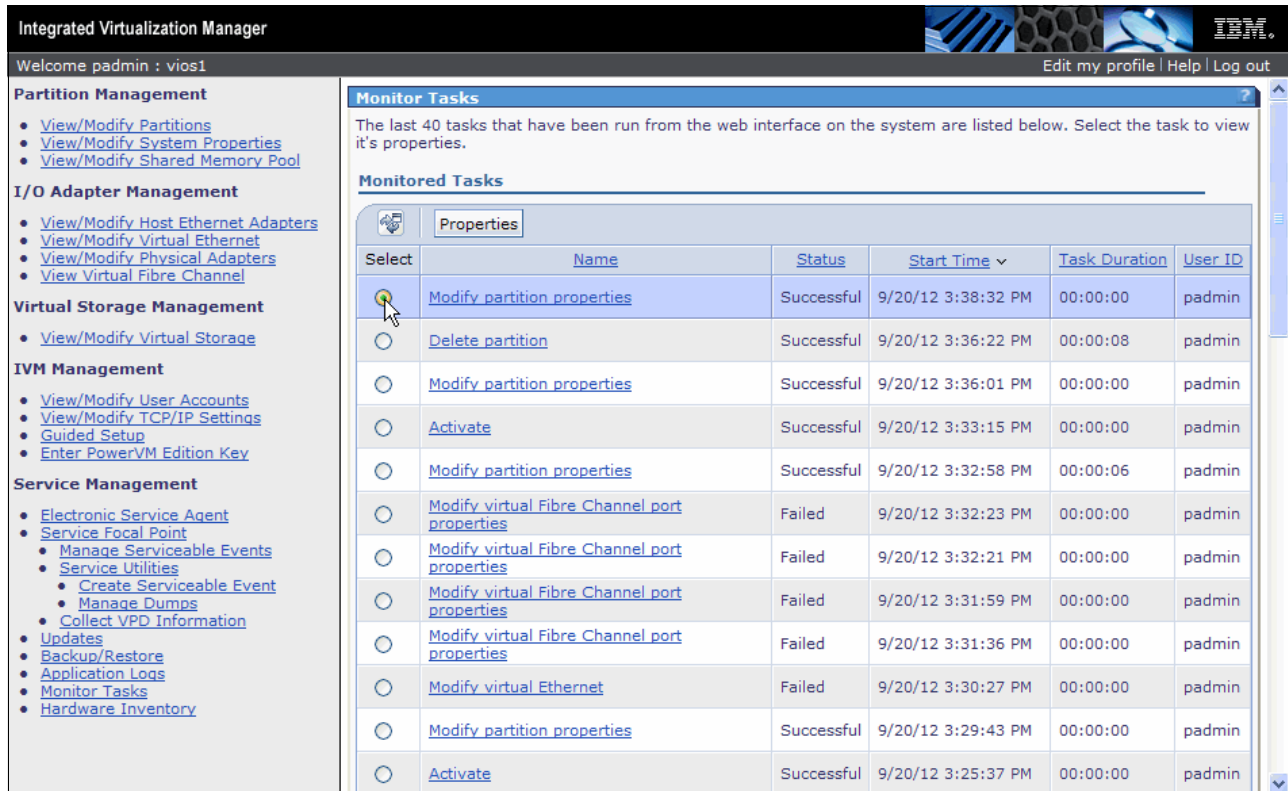

Figure 4-52 Monitor Tasks: the last 40 tasks
2. Select the task for which you want to view the properties (Figure 4-52).